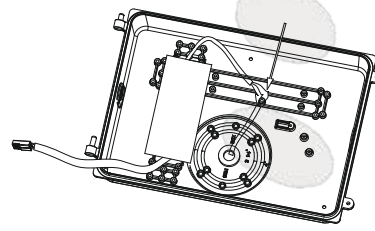

Figure 4
4. Make wiring connections per “Electrical Connections” section and make sure the good wire protection.(Figure 4)